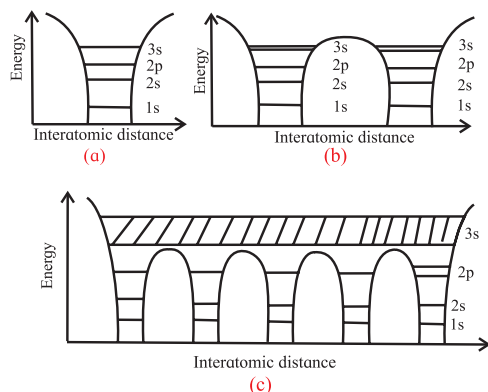

Fig. 14.2: Potential energy diagram, energy levels and bands (a) isolated atom, (b) two atoms, (c) sodium metal.
**Any energy level can accommodate only two electrons (one with spin up state and the other with spin down state).** According to this principle, there can be two states per energy level. Figure 14.2 (a) shows the allowed energy
Consider two sodium atoms close enough so that outer 3s electrons are equally likely to be on any atom. The 3s electrons from both the sodium atoms need to be accommodated in the same level. This is made possible by splitting the 3s level into two sub-levels so that the Pauli's exclusion principle is not violated. Figure 14.2 (b) shows the splitting of the 3s level into two sub levels. When solid sodium is formed, the atoms come close to each other (distance between them  $\sim 2 - 3\text{\AA}$ ). Therefore, the electrons from different atoms interact with each other and also with the neighbouring atomic cores. The interaction between the outer most electrons is more due to overlap while the inner core electrons remain mostly unaffected. Each of these energy levels is split into a large number of sub levels, of the order of Avogadro's number. This is because the number of atoms in solid sodium is of the order of this number. The separation between the sublevels is so small that the energy levels appear almost continuous. This continuum of energy levels is called an energy band. The bands are called 1s band, 2s band, 2p band and so on. Figure 14.2 c shows these bands in sodium metal. Broadening of valence and higher bands is more because of stronger interaction of these electrons.